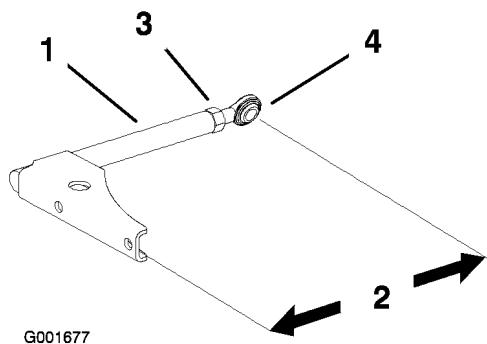

Figure 52
- Loosen the jam nut and rotate the ball joint counterclockwise, one turn at a time (Figure 52).
- Adjust each side the same amount. Each push arm should have a nominal length of 13-1/2 inch (34 cm) at a 15 degree twist (Figure 52).